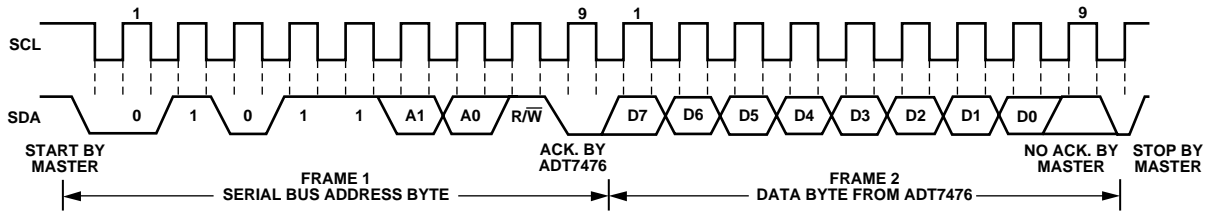

Figure 20. Reading Data from a Previously Selected Register
A read operation is then performed consisting of the serial bus address, $\overline{R/W}$ bit set to 1, followed by the data byte read from the data register (see Figure 20.)
- If the address pointer register is known to be already at the desired address, data can be read from the corresponding data register without first writing to the address pointer register (see Figure 20).